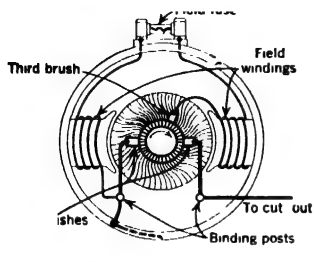

FIG. 15a -Third-brush Generator. (Northeast.)
(3) Another type of control is the *third-brush regulation* (Figs. 15a and 15d). This regulation increases or decreases the current by weakening or strengthening the magnetic field of the generator.